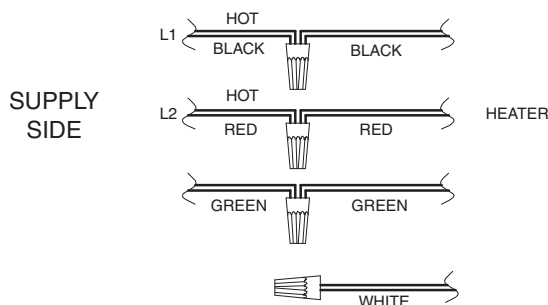

Fig. 16: 240V Hook-Up
The heater comes standard with a 120 VAC 3-prong power cord. For 240 VAC applications, see figure 16. Power source must be a wired ground, with ground fault circuit interruption circuitry.
8. Install a wire nut on the white transformer wire. (See Fig 16)
9. Wire nut the 240V supply lines to the red and black wires on the transformer. (See Fig 16)
10. Wire nut the supply ground line to the green transformer wire. (See Fig 16)